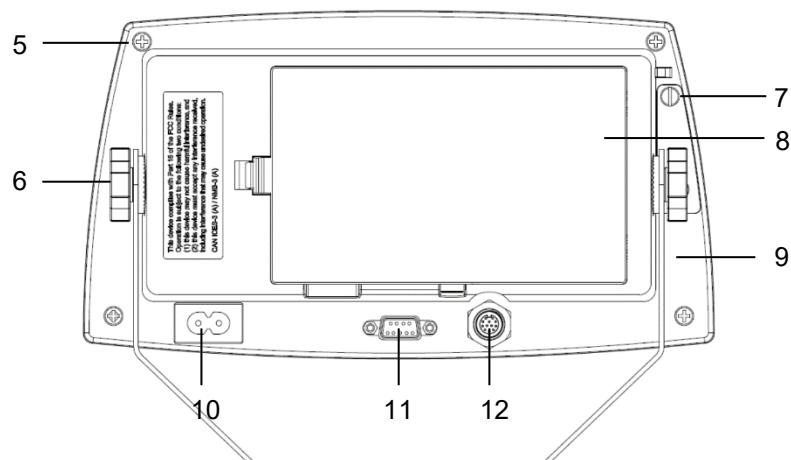

Figure 1-1 TD52P Indicator
OHAUS bases with an EasyConnect™ connector can be attached to the external load cell connector (Figure 1-1, item 12). To make the connection, plug the base connector onto the external load cell connector. Then rotate the base connector's locking ring clockwise. Refer to section 2.3.2 for bases without a connector.
Connect the optional RS232 cable to the RS232 connector (Figure 1-1, item 11).
Connect the AC power cord (supplied) to the power receptacle (Figure 1-1, item 10), then connect the AC plug to an electrical outlet.
3. Remove the metal terminal (Figure 1-1, item 12) connector from the rear housing. (green circle)